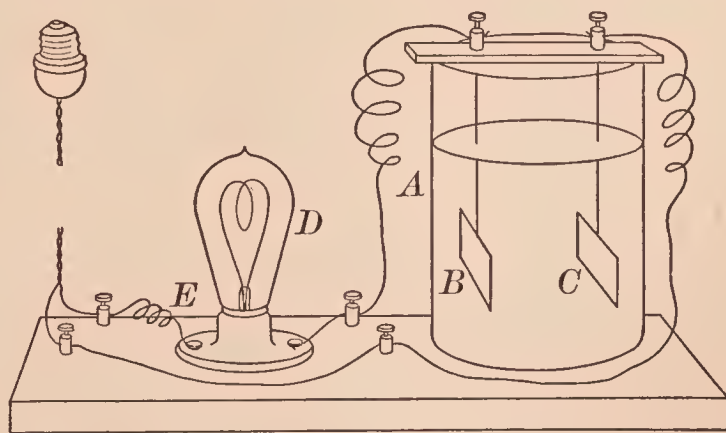

FIG. 45. — Apparatus for showing what solutions conduct electricity
**APPARATUS.** — As in Fig. 45. *A* is a jar for the solution, *B* and *C* are electrodes of aluminum which are supported on the top of the jar by a strip of wood. *D* is an electric light bulb which is connected with the wire from the electrode *B* and with one end of the wire *E*. The wire from the electrode *C* and the other end of the wire *E* are connected with a direct street current (reduced), a storage battery, or 4 dry cells.
Construct and arrange the apparatus as in Fig. 45.